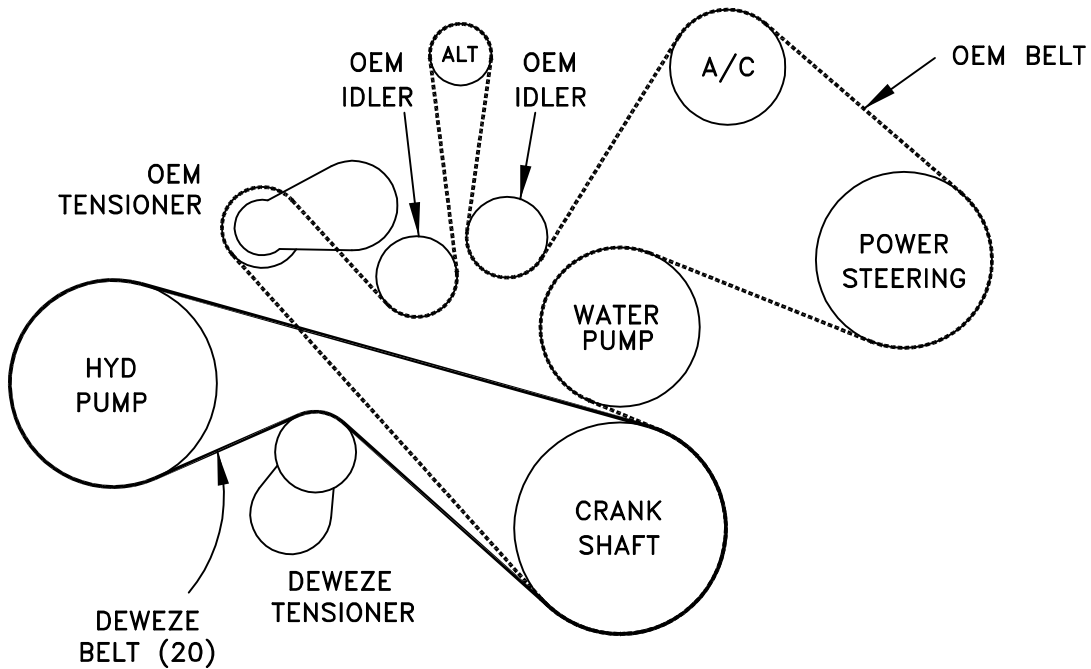

FIG. 2
3. After the fan is removed, remove the starter. Stick a 3/4" rod into the flywheel so it cannot turn. Remove the OEM bolt (13) and large flat washer from the center of the crankshaft balancer. The OEM flat washer will not be used over. If the 1/2 x 3/4 socket head bolt (19) is not in the back side (the side with the hub) of the DewEze crank pulley (5), thread it in. Mount the pulley placing the socket head bolt into the hole in the damper counterweight (Location G, Fig. 2). If the damper does not have the hole in the counterweight, rotate the pulley counterclockwise so the socket head bolt rests against the end of the counterweight (Fig. 5). Fasten the pulley with the OEM bolt (13) and the DewEze flat washer (6). Torque the bolt to 260 lb-ft. Replace the starter.